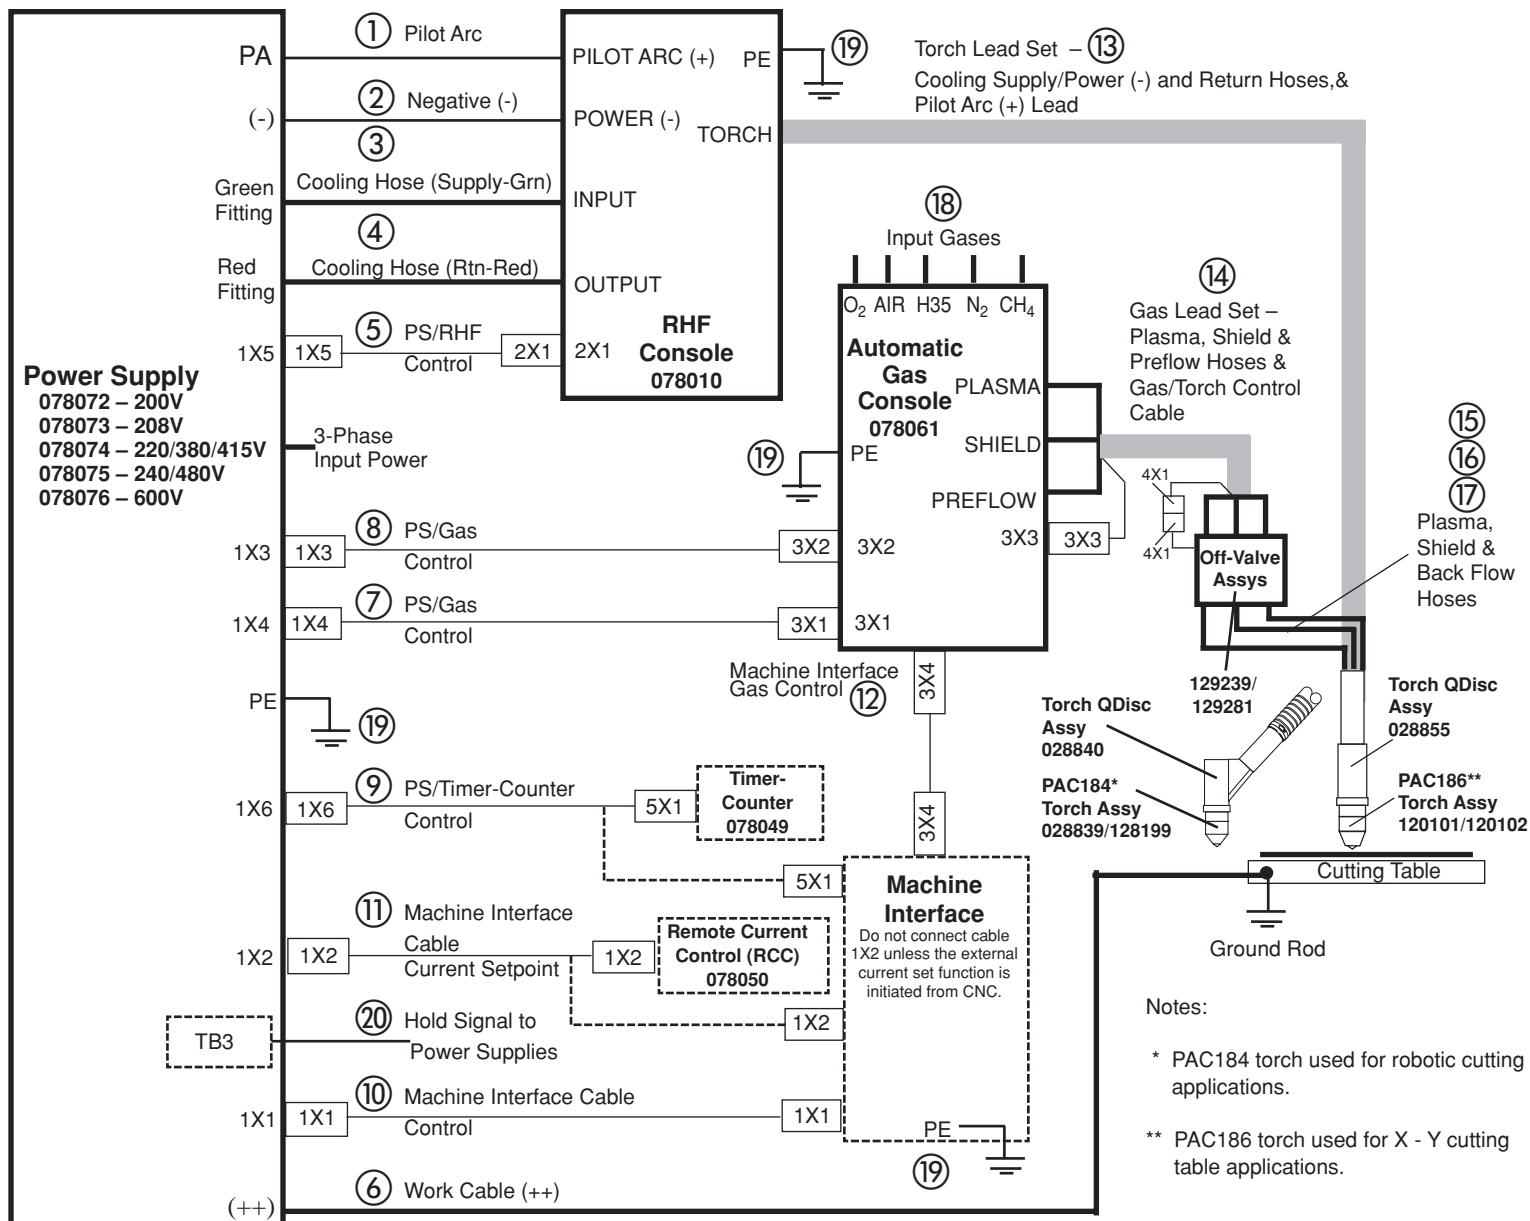

Figure 3-8 HD3070 System with Automatic Gas Console Interconnect Diagram
The following cable, hose and lead set interconnecting procedures are supported by the system interconnection diagram, Figure 3-8. Also provided are illustrations of each unit showing where the connections are to be made and illustrations of the cables, hoses and lead sets.
1. Route one end of the cable through the feed-through on the rear of the power supply and connect to the work (++) terminal (Figure 3-8).
2. Connect the other end of the cable to the work table ground rod or to the work table. Make sure that good metal-to-metal contact has been made (Figure 3-8).